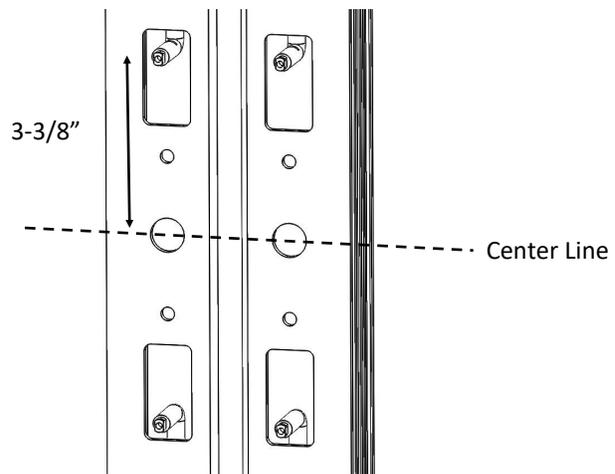

**Figure 6-1**
- A. Ensure all latches are in the Door Closed Position. (See Figures 6-1). If the latch is in the Door Open Position, manually push it back into the Door Closed position. (See Figure 6-2) Be careful to avoid sharp corners on the door notch when moving the latch.